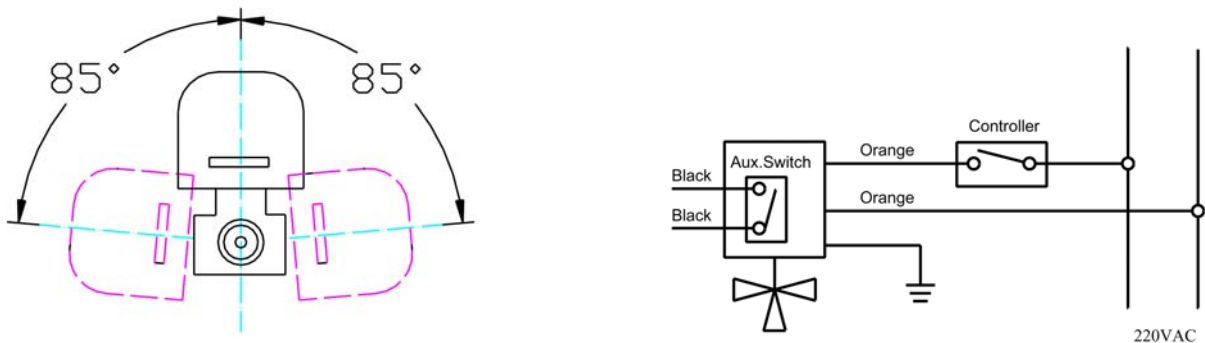

Fig. 4
2. Note: When the valve is mounted on horizontal pipe, the angle must be positioned less than 85° (see Fig. 4).